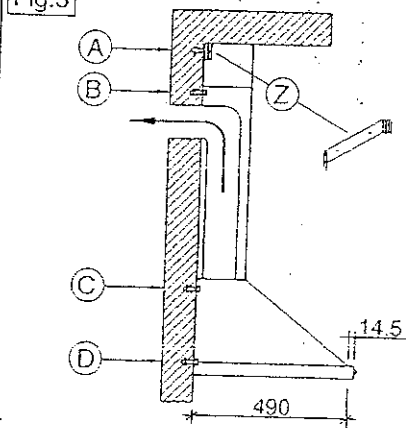

Fig.4
Block the coupling flange (Y) fig. 4.
Fit the diaphragm (X) fig. 4 in the lower connection (F) fig. 4 by using the proper screws.